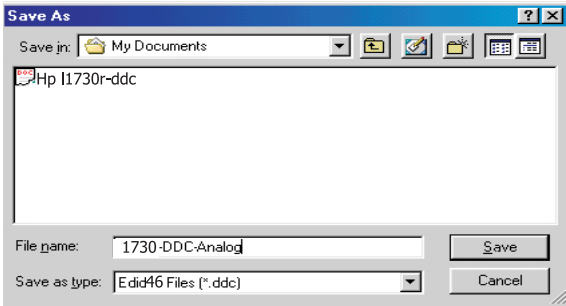

Fig.29
1. Click (Save) icon (or click "file"-> "save as") from the tool bar And give a file name as shown in Fig. 29.